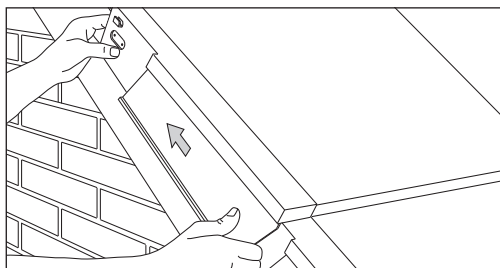

Fig 5 Slide up each unit to interlock
- 12 Successive dry verge units are interlocked together by sliding upwards against unit below, ensuring that lugs on outside of verge unit fit into internal locating slots (Fig 5).